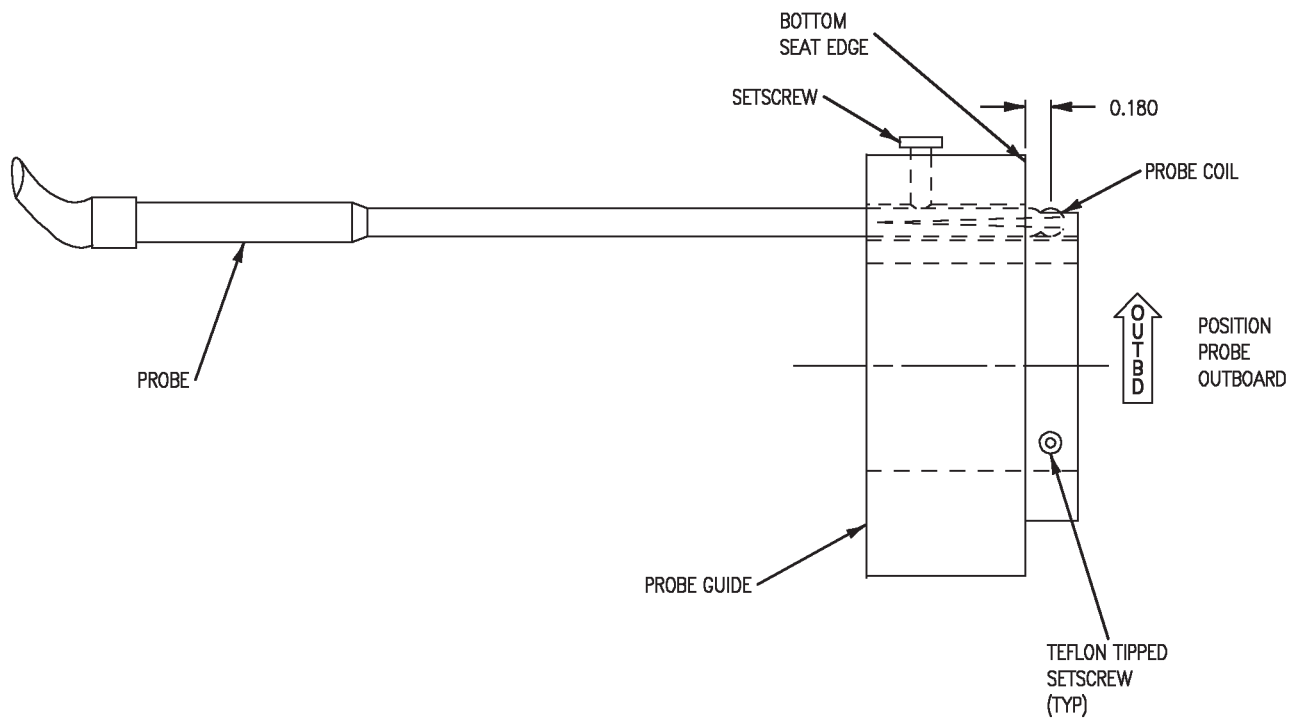

Figure 5. Probe/Probe Guide Adjustment, Setup
- Insert probe into probe guide directing probe coil outward and approximately 0.18 inch from coil center to bottom seat edge, see figure 5.
- Adjust two teflon tipped setscrews allowing only teflon tip of screw to protrude from probe guide, see figure 5.